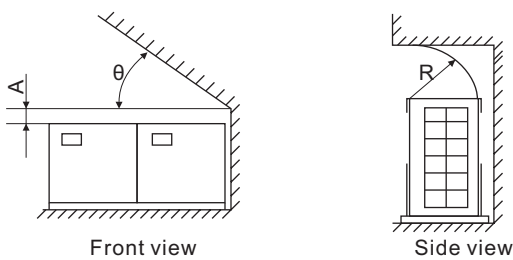

Fig.3.15 Barrier above outdoor unit
7) When there is any barrier above the outdoor unit, please see Fig. 3.15.